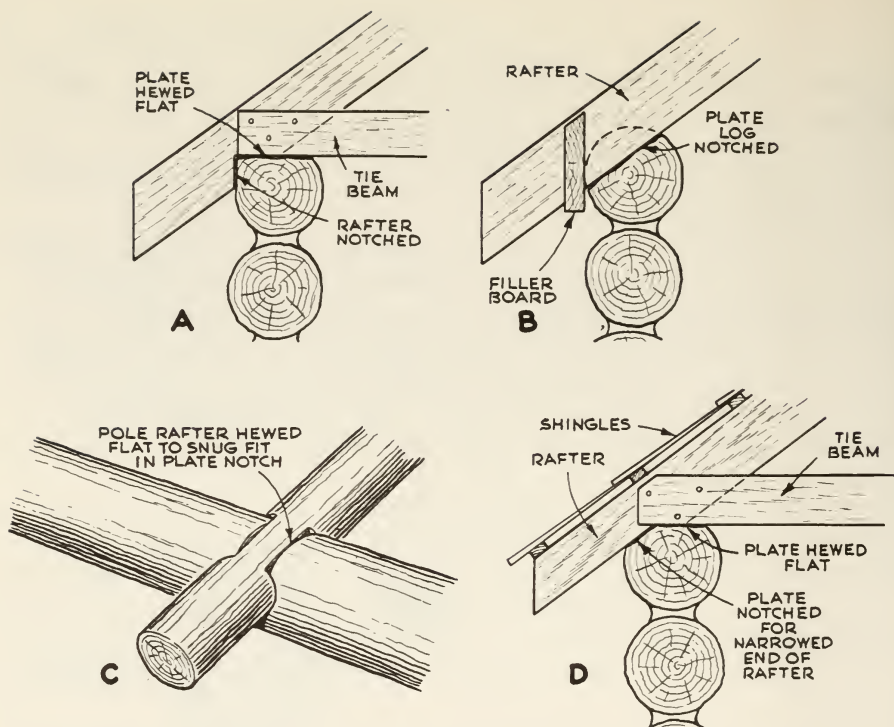

Fig. 13. Four methods of supporting rafters on top plates in gable-roof construction.
**THE LOG CABIN ROOF.** The familiar gable roof resembling an inverted V sheds rain well and will not accumulate an excessive load of snow. The plates, or top logs in the long side walls, support the rafters that frame the roof. These may be notched at an angle to rest on the flat-hewed tops of the plates as at A in Fig. 13., or the plate log may be notched instead to a snug fit for the rafters as at B. Either poles 4" to 6" in diameter, or sawed 2-by-4s, may be used for rafters in a small cabin. If logs are used for both plates and rafters, both may be notched as at C, Fig. 13. Still another method is shown at D.